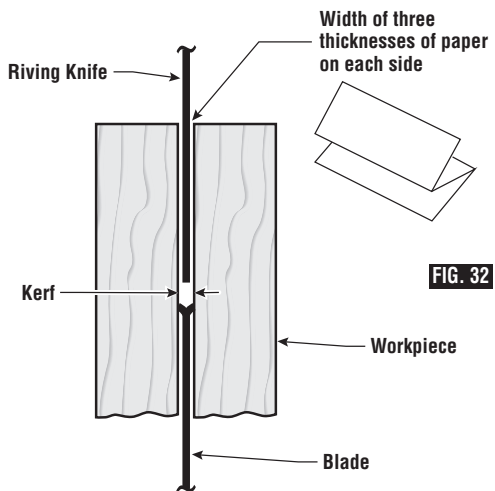

FIG. 32
IMPORTANT: The Riving Knife must always be in line with the Saw Blade. The Riving Knife is thinner than the width of the Kerf by approximately three thicknesses of paper on each side (Fig. 32). **Note:** The Kerf is the width of the cut made by the teeth on the saw blade.
4. Using the rip fence as a guide, check the riving knife alignment with the plane of the saw blade. Since the riving knife is thinner, by approximately three thicknesses of paper on each side, than the width of the blade's KERF (Fig 32) you must make a temporary paper "spacing gauge". Make two folds in a small piece (6" X 6") of ordinary newspaper making three thicknesses. Place the paper spacing gauge between the riving knife and the rip fence (Fig 34).
6. Make two folds in a small piece of paper (6" x 6") forming three layers (Fig. 32). Paper is used as a "Spacing Gauge."